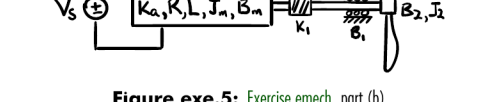

Figure exe.4: electronic system, part (a)
- The electronic system of Fig. exe.4, voltage and current sources, and transformer with transformer ratio N .